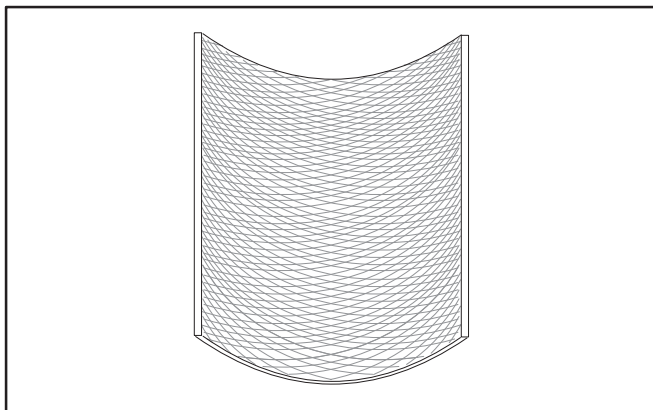

FIGURE 9-32. PROPER HONE CROSSHATCH IN BORE
Rebore and/or hone a scuffed, out-of-round, tapered or otherwise worn cylinder to the next over-size bore (*Section 2. Tolerances and Clearances*). Honing should produce a 20 to 40 RMS surface finish with a 23 degree crosshatch pattern (Figure 9-32) for rapid piston ring break-in.
3. Use a slow speed drill to drive the deglazing tool. Move the deglazing tool up and down in the cylinder bore 10 to 12 complete strokes rapidly enough to obtain a crosshatch pattern (Figure 9-32).